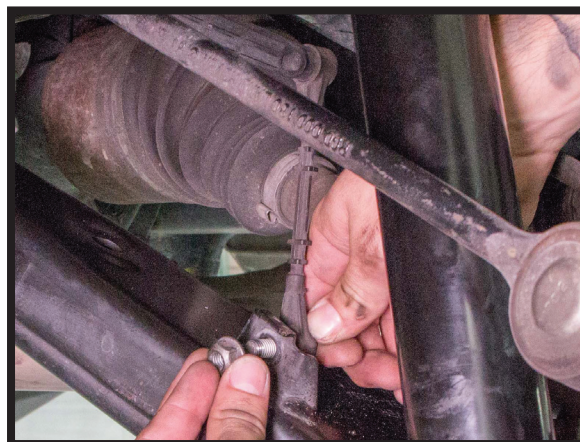

FIGURE 61
11. REINSTALL THE RIDE HEIGHT SENSOR. (FIGURE 61)